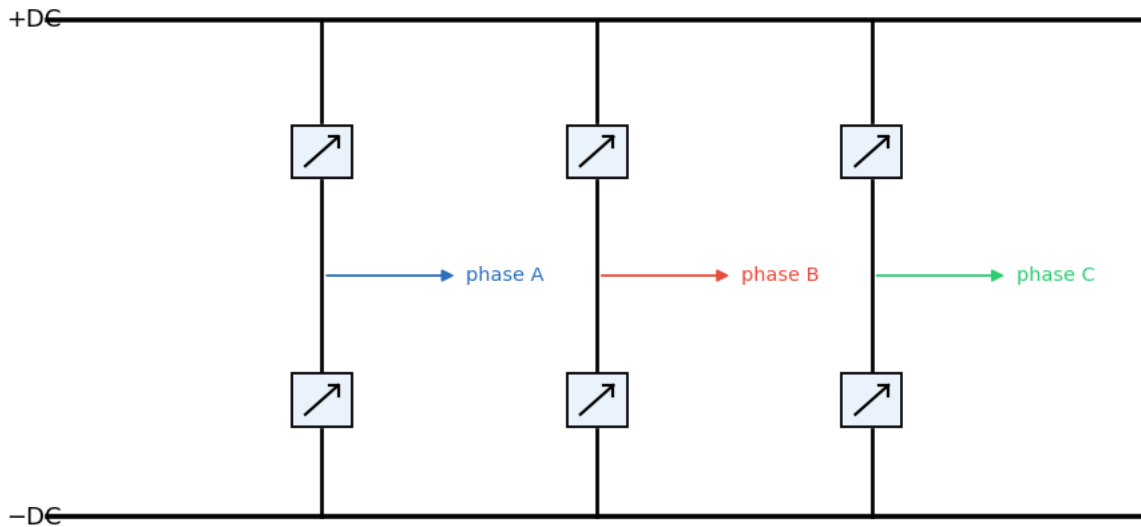

Figure 7: Fig. 7 — Three-phase inverter
1. **Speed controller (PI):** compares commanded vs measured speed → produces the torque command i_{q*} (with $i_{d*} \approx 0$).
2. **Current controllers (PI):** regulate i_d , i_q to their references using the measured phase currents transformed into the d-q frame (Clarke + Park).
4. **Three-phase voltage-source inverter (Fig. 7):** six power switches (IGBT/MOSFET) chop the DC bus to synthesise the desired sinusoidal voltages.